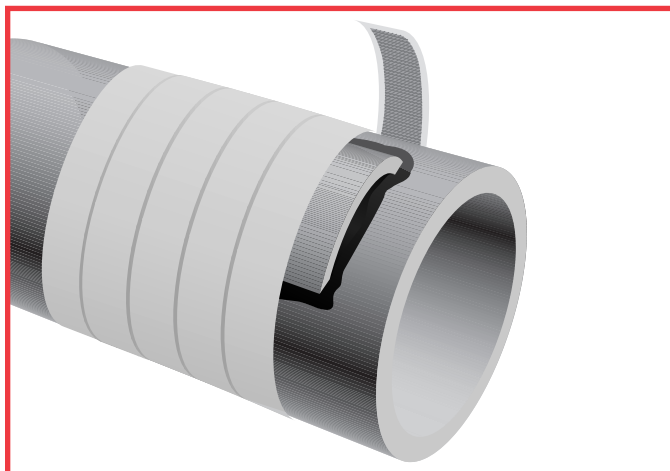

Figure 7. Wrap the repair area with reinforcing mesh when repairing small pipes.
4. For high-pressure pipes (> 100 psi or 0.70 mpa) prepare the pipe as above. For small diameter pipes, wrap the repair firmly with reinforcing mesh impregnated with epoxy. Before the epoxy hardens, over-coat and shape the repair with a final application of epoxy. (See figure 7)